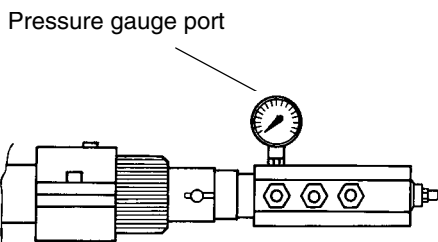

Fig. 31
- 9 the nozzle supply pressure is already factory-set and must not be changed. Only if necessary, adjust the supply pressure as follows (see related paragraph); insert a pressure gauge into the port shown on Fig. 31 and act on the pump adjusting screw **VR** (see Fig. 30) as to get the nozzle pressure at 25bar (Fluidics nozzles - see diagram on page 39).